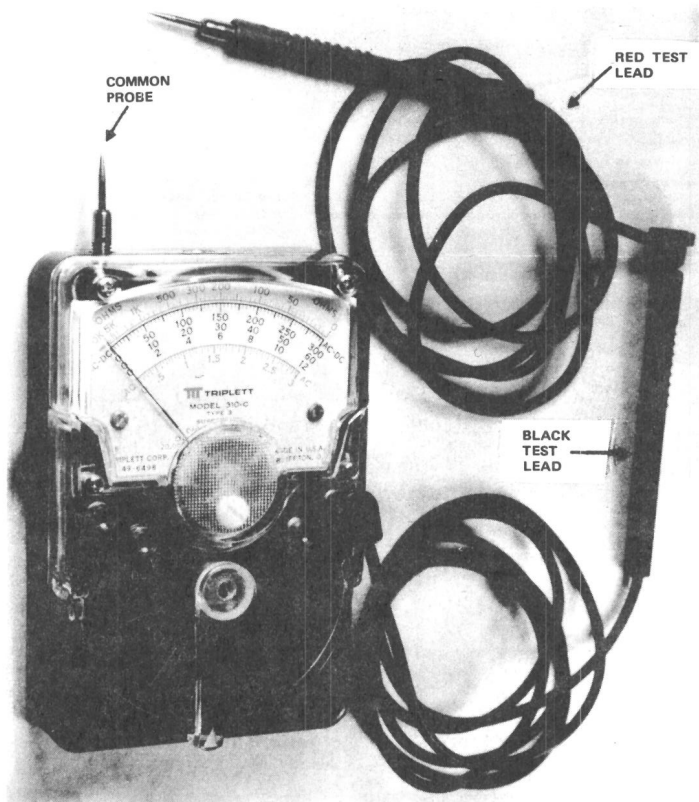

FIGURE 2
2.04 To avoid the necessity of handling the meter and two test cords with probes, unscrew the tip from the black test lead probe and insert it in the jack on the top of the meter. By doing this, the meter can be held in one hand and used as the common probe. With the red test lead connected to the V.O.M. jack, the other hand is free to operate the red test lead. The two leads can be connected together if a long lead is necessary. This can be accomplished by removing the black probe tip and inserting the red lead plug end into the cavity of the black probe. See Figure 2.